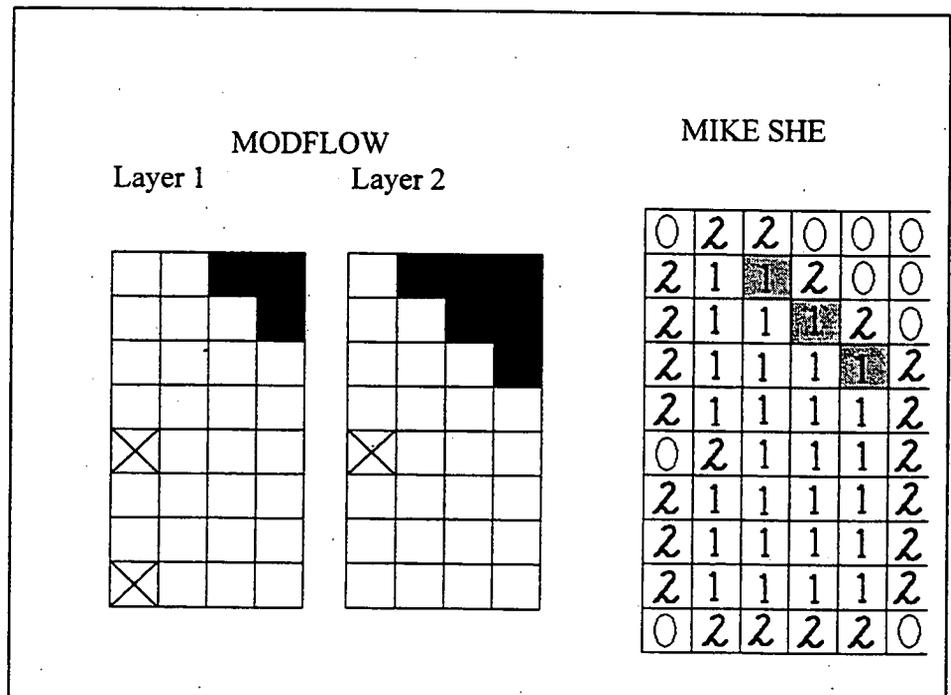

Figure 1 Illustration of mapping of boundary conditions from a two layer MODFLOW setup to MIKE SHE.
- MF2SHE uses the MODFLOW boundary conditions (IBOUND) to determine the model boundary. The resulting MIKE SHE boundary is chosen so that the model extent of all layers can be met. Figure 1 shows a 4 X 8 grid cell, 2 layer MODFLOW set-up in which part of the grid cells have been set to no flow cells (black cells) and 3 cells have been set to a constant head boundary condition (crossed cells). If the original MODFLOW grid size is not changed, this set-up is
converted to a 6 x 10 MIKE SHE set-up with 2 layers. The resulting boundary input for the MIKE SHE set-up is shown on the right in figure 1. The active (inside model area), boundary and inactive cells have respectively codes 1, 2 and 0. Because the extent of the active cells in layer 1 of the MODFLOW set-up is larger than for layer 2, some of the inactive cells in layer 2 will be modeled in MIKE SHE by reducing the hydraulic conductivity. These cells are indicated in grey in figure 1. Also notice that a constant head cell in the MODFLOW set-up will only be on the border in the MIKE SHE set-up if it is present in all layers.